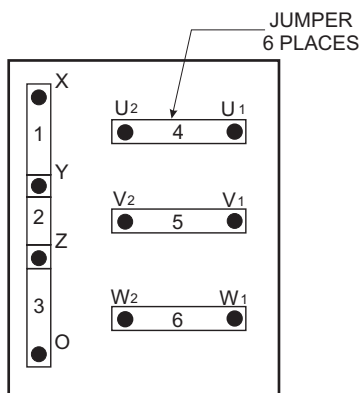

Figure 17. Voltage Change-Over Board
1. Jumper the **voltage change-over board** for **240-volt operation** as shown in Figure 17.
1. Make sure the **voltage change-over board** is jumpered for **240-volt operation** as shown in Figure 17.